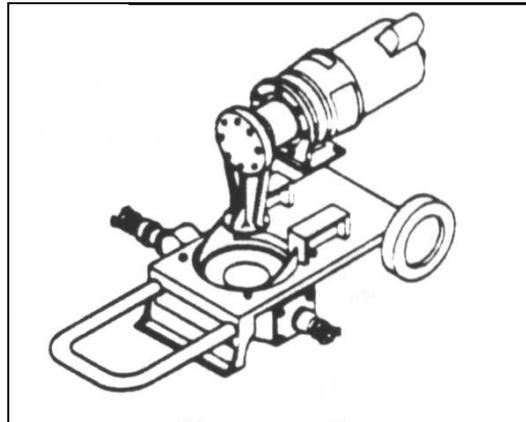

Figure 6-1
6.4.1 The electric motor driven pump (figure 6.1) is a portable, frame mounted, unit designed to evacuate wastewater at the maximum rate of 2,600 gallons per hour at 60 strokes per minute.